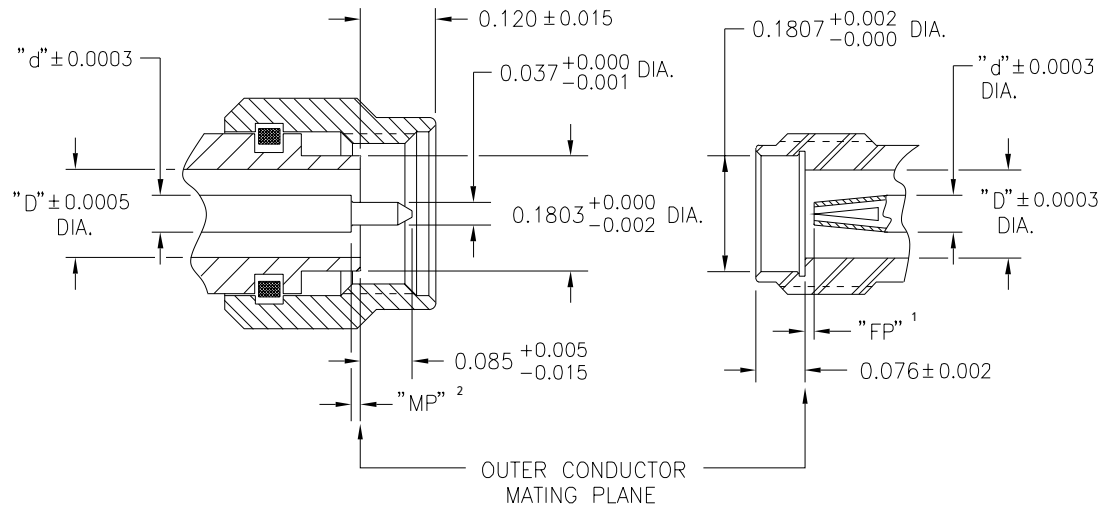

Figure 1. Critical Contact Pin Location
The critical contact pin locations of 3.5mm and 2.92mm female and male precision connectors are shown in Figure 1. These dimensions must be maintained in order to provide proper electrical performance and mechanical mating of the connectors. The connectors are designed to achieve a co-planar mating of the center conductors and outer conductors at the outer mating plane. Destructive interference will result if the contacts protrude beyond the outer conductor mating planes. This interference may cause buckling of the female contact fingers or damage to associated equipment during mating. Alternately, an excessive gap of the mated center contacts produces high reflections and reduces peak power handling capability. These precision connectors should be gaged routinely to ensure compliance to applicable specifications, to prevent destructive mating, and to ensure proper electrical performance. Additionally, connectors on all equipment should be gaged periodically to detect out of tolerance conditions which may impair electrical performance or cause damage to mating connectors. The A034B1 is very useful in a variety of applications such as: production checkout, incoming inspection, quality control and laboratory measurements.
**NOTE:** Minus (–) tolerances indicate a recessed condition from the outer conductor mating plane. Plus (+) tolerances indicate a protruding condition above the outer conductor mating plane. Other dimensions shown in Figure 1 are included because they affect the mating of the gage assembly's gaging mechanisms (bushing and pin). Deviation from these dimensions may cause measurement errors or improper fit between the gaging mechanisms and the connectors being measured. Consult our Customer Service department on measuring connectors with interface dimensions other than those specified above.